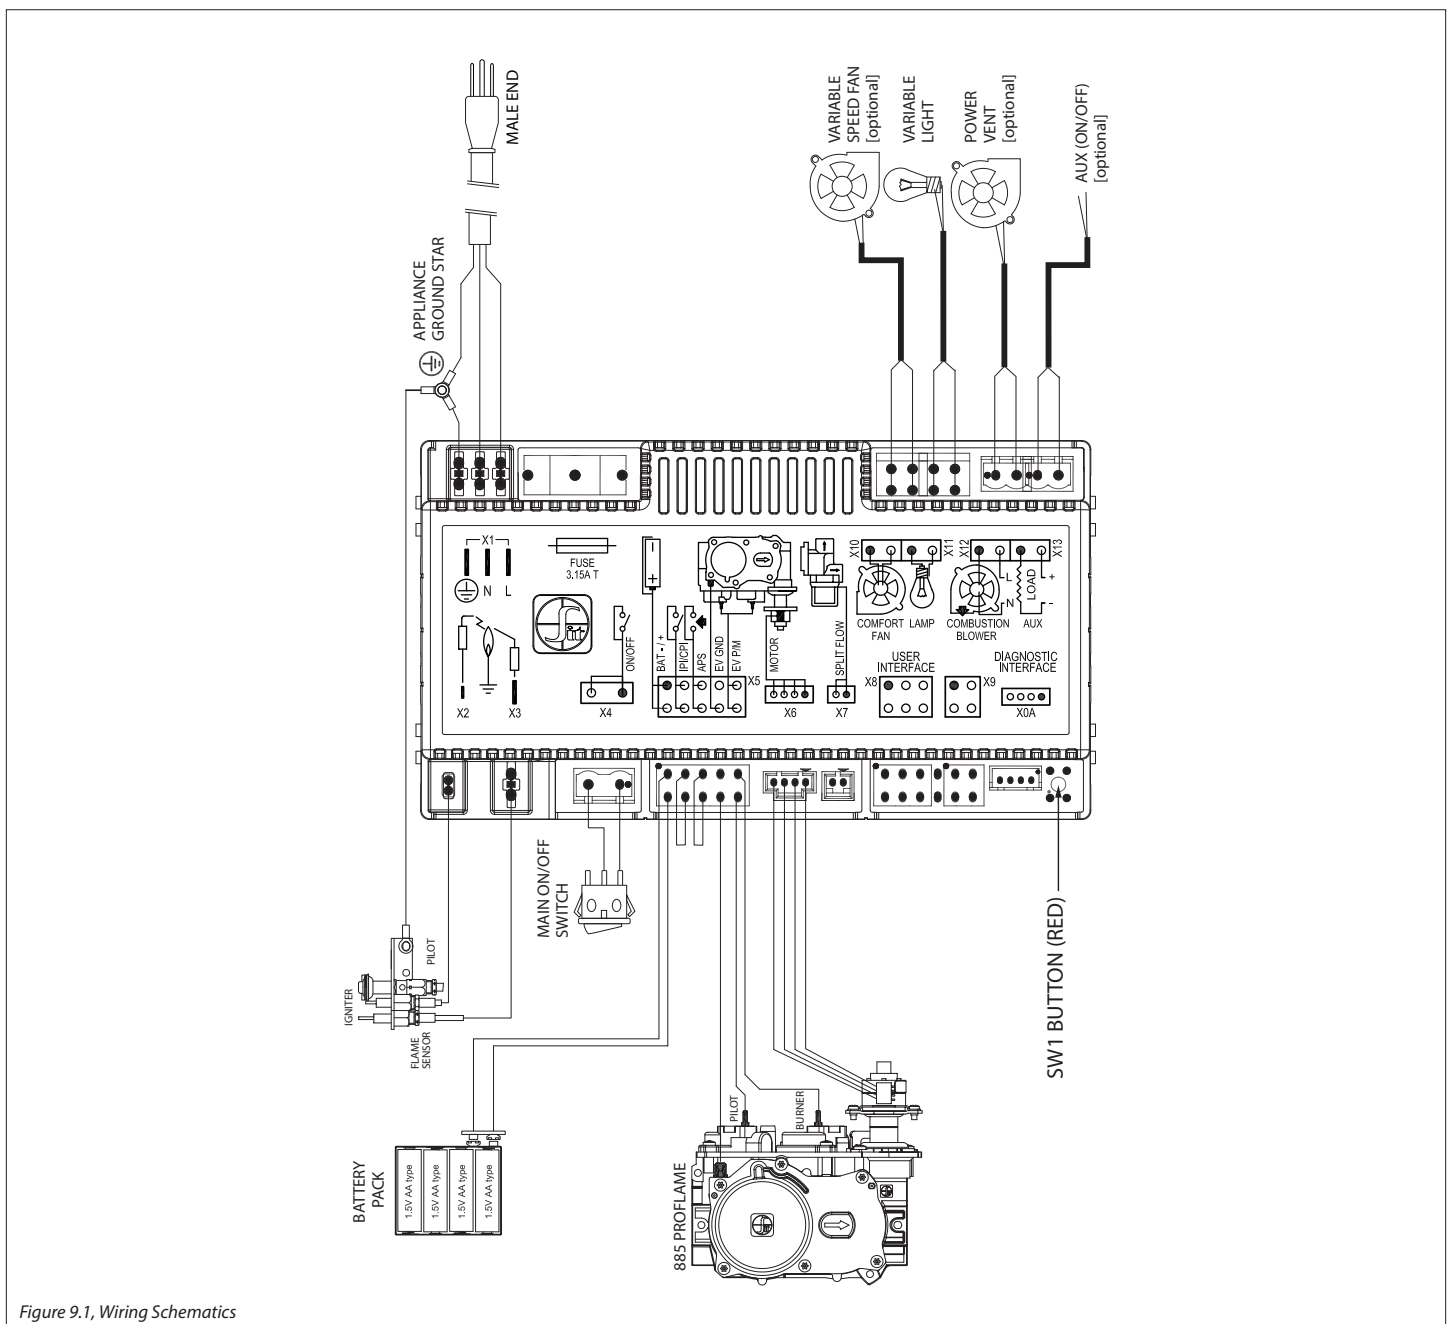

Figure 9.1, Wiring Schematics
9. Plug the fan cord into the receptacle on the IFC control module. See Figure 9.1, Wiring Schematics (page 54).